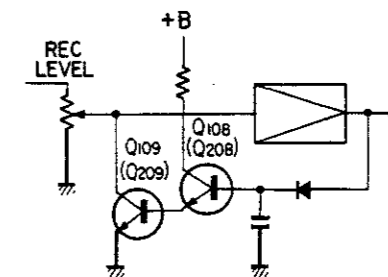

Fig. 26 Limiter circuit
11.4 LIMITER CIRCUIT (Fig. 26)